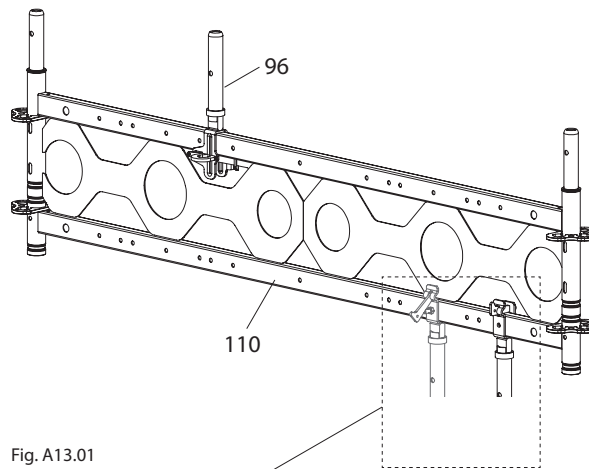

Fig. A13.01
The Multi Girder ELM 200 (110) is used for the making personnel passages or as bridging in modular scaffolds. (Fig. A13.01)